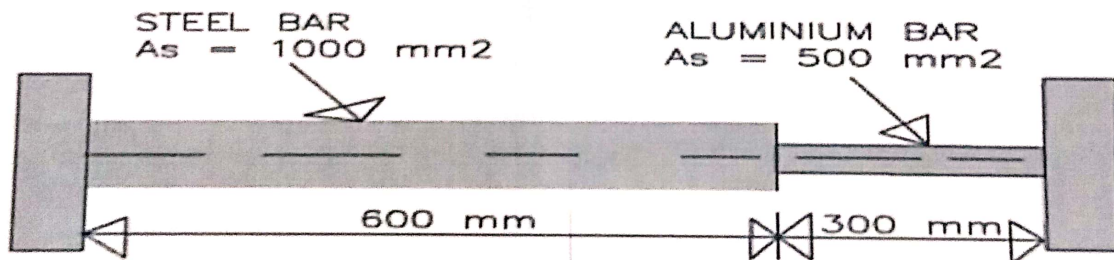

Figure Q4: A Composite bar of Aluminum and Steel
- a) A composite bar is made up of aluminum and steel is held between two supports as shown in Fig. Q4. The bars are stress free at a temperature of 38°C . What will be the stresses in the two bars when the temperature is 21°C , if (i) the supports are unyielding (ii) the supports come nearer to each other by 0.1 mm. It can be assumed that the change in temperature is uniform along the length of the bar. Take E for steel as 200 GPa and E for aluminum as 75 GPa. Coefficient Of linear expansion (α_s) = $11.7 \cdot 10^{-6}/\text{K}$; Coefficient Of linear expansion (α_A) = $23.4 \cdot 10^{-6}/\text{K}$. (10 Marks).